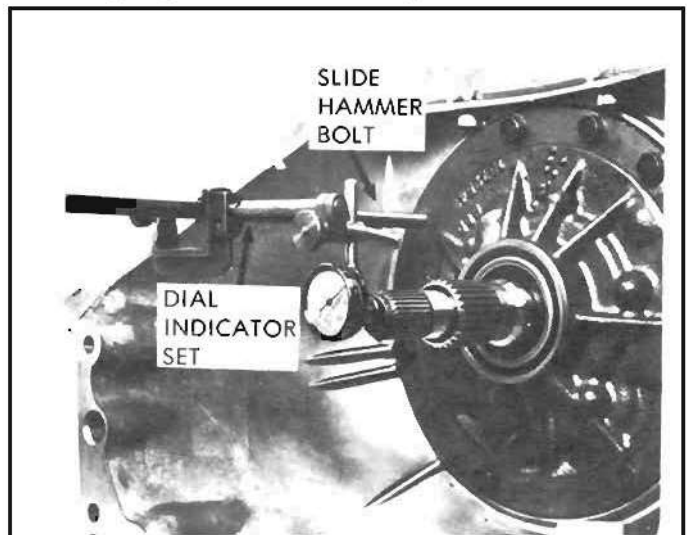

Figure 98 Checking End Play Output Shaft Sleeve and "O" Ring
5. Checking direct clutch to oil pump clearance, attach slide hammer bolt to threaded hole in oil pump. *See Figure 98.* With flat of hand on end of input shaft move shaft rearward. Install Dial Indicator Set J-8001 on rod and "O" dial indicator on end of input shaft.